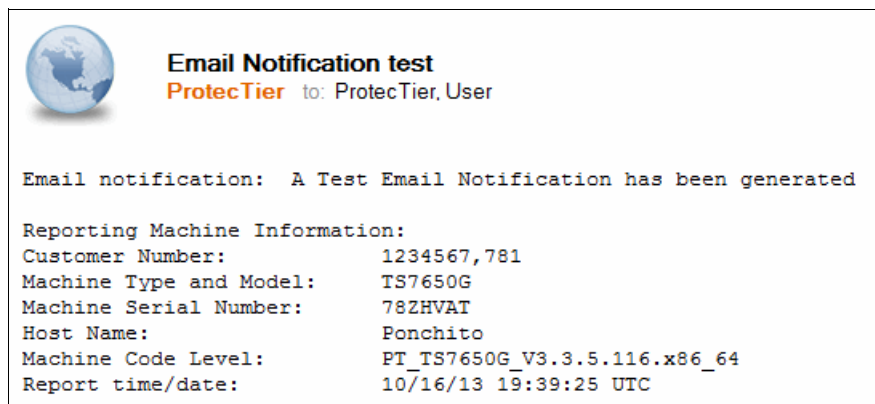

Figure 1-9 Email notification test template
5. After the destination email address is added, and if everything is correctly configured, you receive a test mail at your destination. Figure 1-9 is an example.